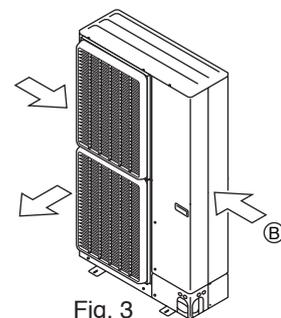

Fig. 3
- (3) Position the unit so that the air outlet blows perpendicularly to the seasonal wind direction, if possible. (Fig. 3)
In the case of "□ 450", prepare a maintenance hole at a PCB side (as it is shown in Fig. 3), and "Min. 300 mm" is needed as distance **A**.